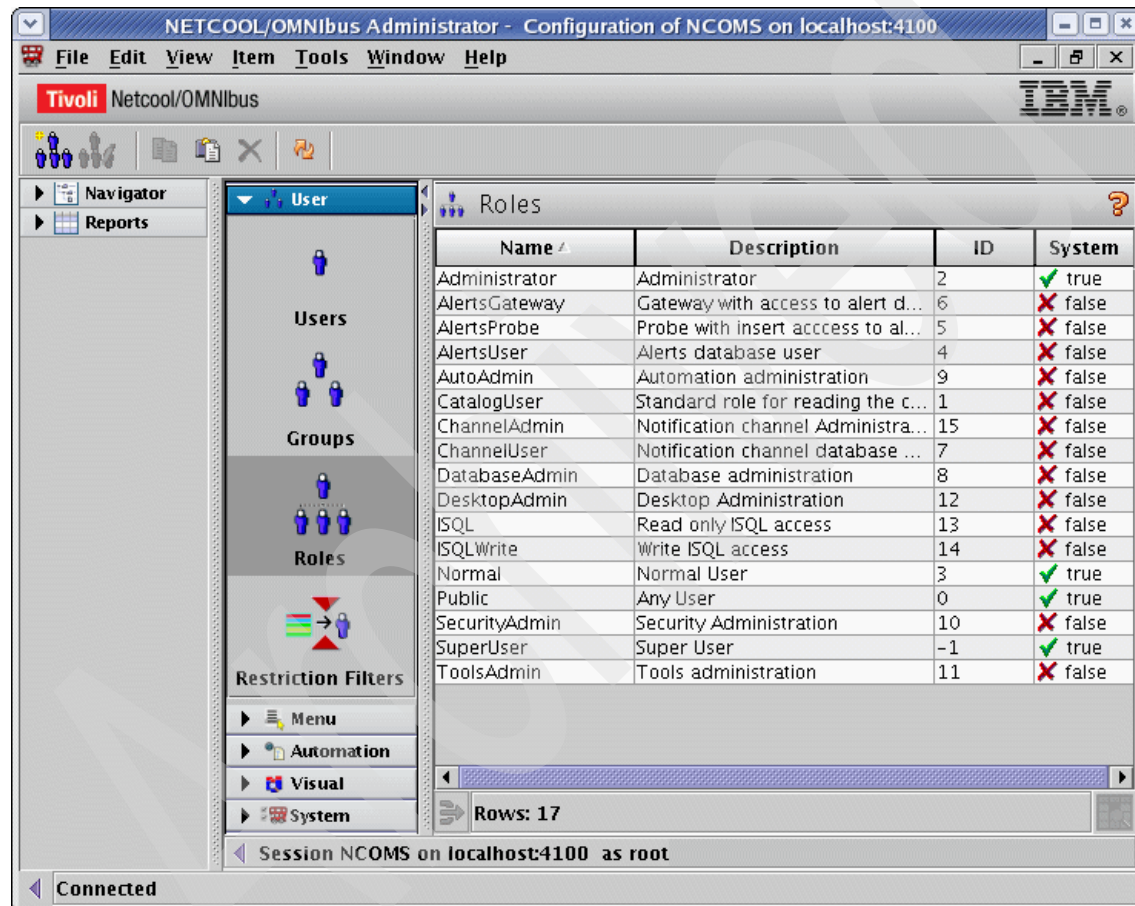

Figure 4-13 IBM Tivoli Netcool/OMNIBus Administrator Roles tab
1. Within the Configuration Manager, click the **Users** tab, as shown in Figure 4-13.